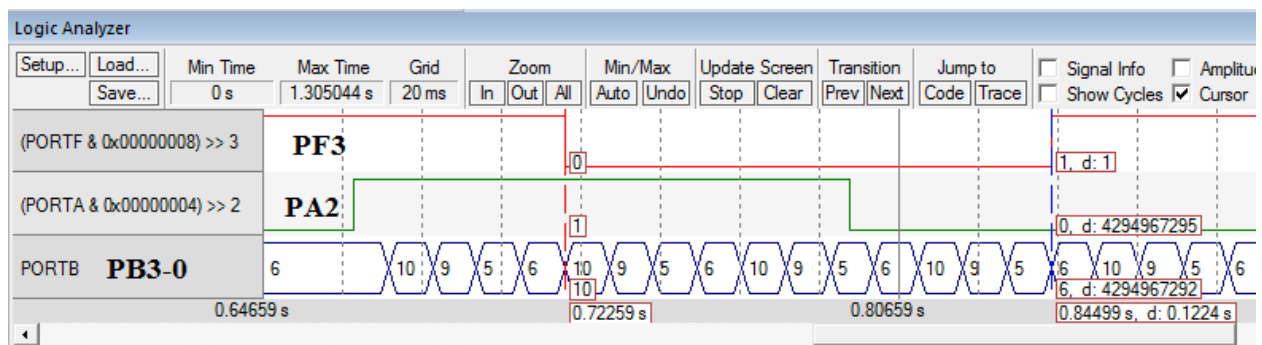

Figure 4.2. Simulation output showing heartbeat on PF3, the input on PA2, and output on PB3-0.
2. A screenshot showing the system running in simulation mode. In the screenshot, please show the dumped data in a memory window and the I/O window, as illustrated in Figures 4.2 and 4.3